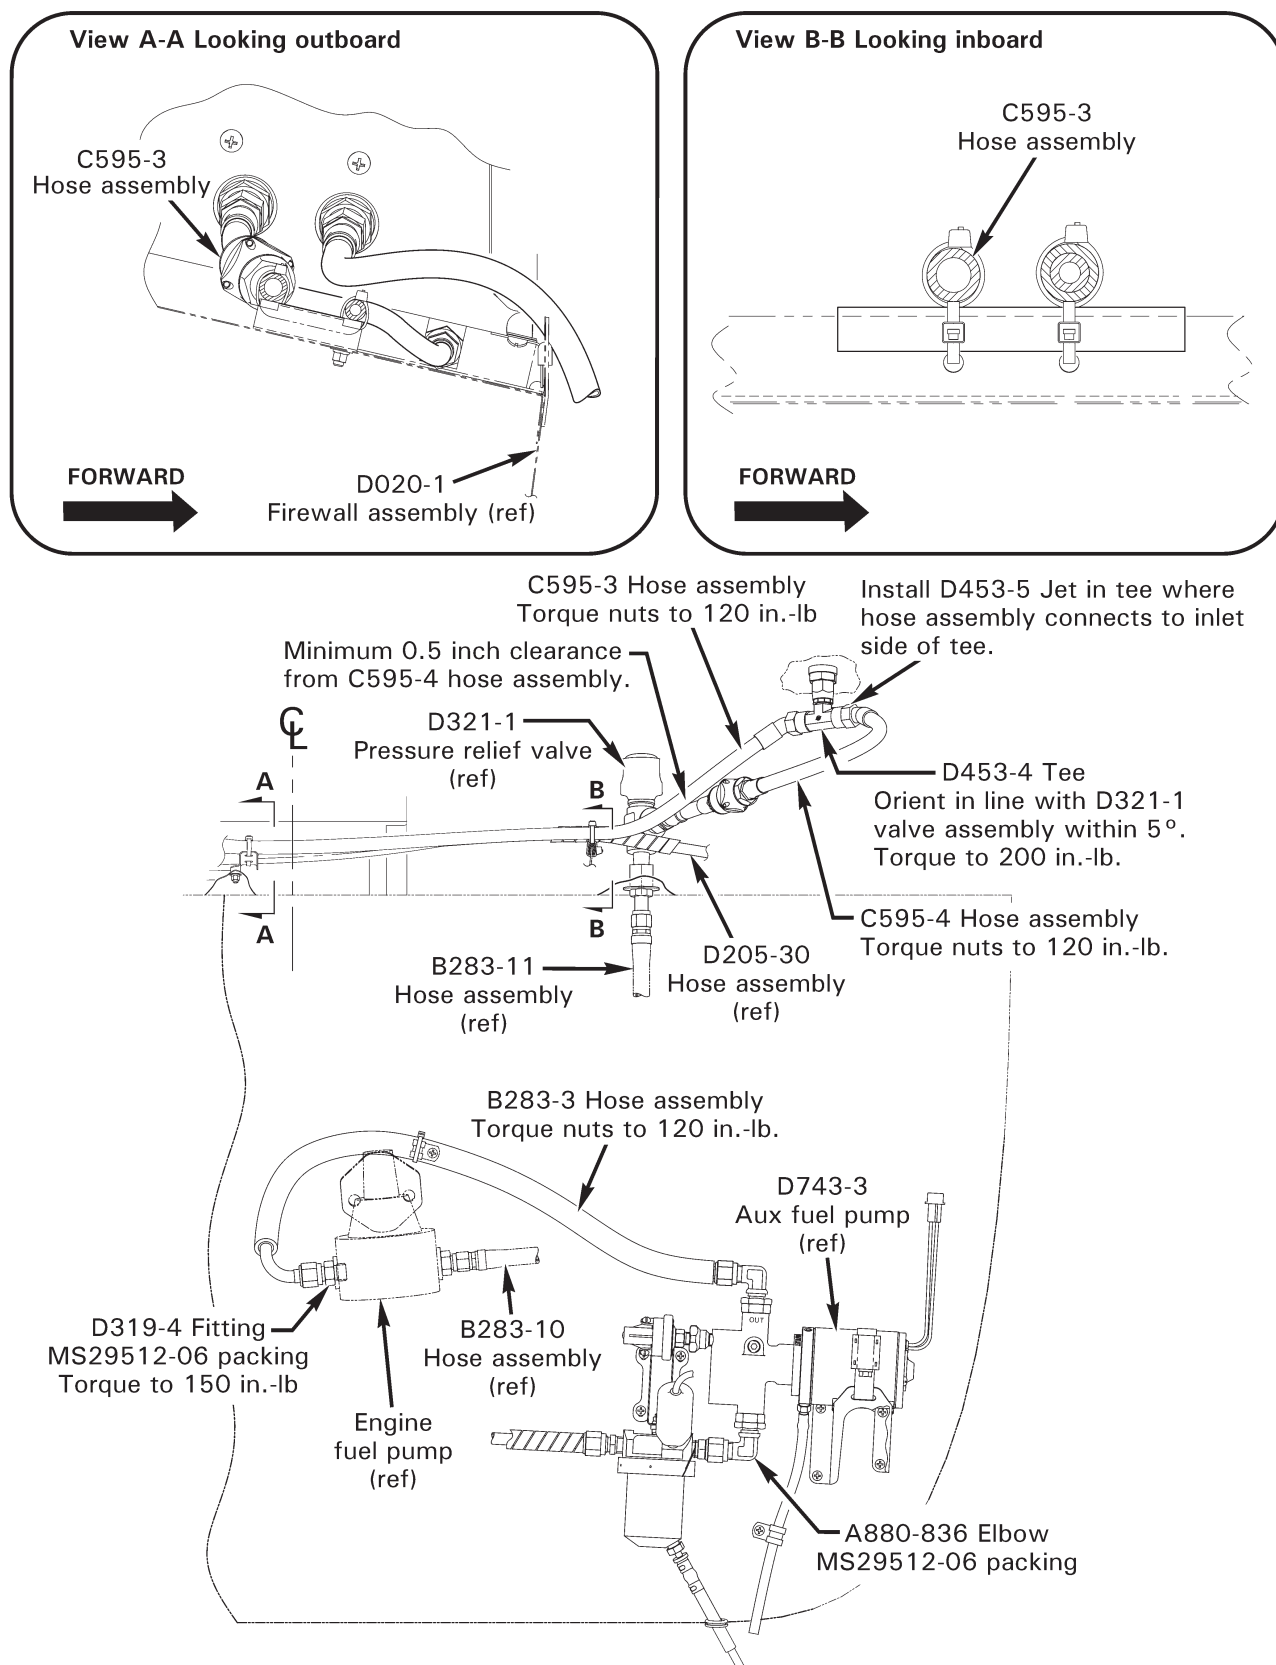

**FIGURE 8**
63. Refer to Figure 8. Replace (3) MS35489-6 grommets in lower ribs. Observe orientation markings and install (2) D251-1 rollover vent valve assemblies through lower rib grommets and attach A729-48 (tank vent) tubes using (2) B277-4 clamps; if lower vent fittings are present (main and/or aux tank), verify A457-19 cap(s) are installed. Install (2) A729-79 tubes to valve assemblies and secure using (2) D277-6 clamps.
66. Refer to Figure 8. Attach mast fairing to left side of upper rib. Route pitot line through grommet in rib. Create stand-off and secure pitot line to A731-10 tube assembly (left-side tube) using A729-63 tube and ty-raps as shown. Position MS21919WDG4 clamp around pitot line and secure clamp to C261-7 & -8 mid ribs using hardware shown. Connect pitot line to pitot tube. Perform pitot system and static system leak tests per MM § 13-10.